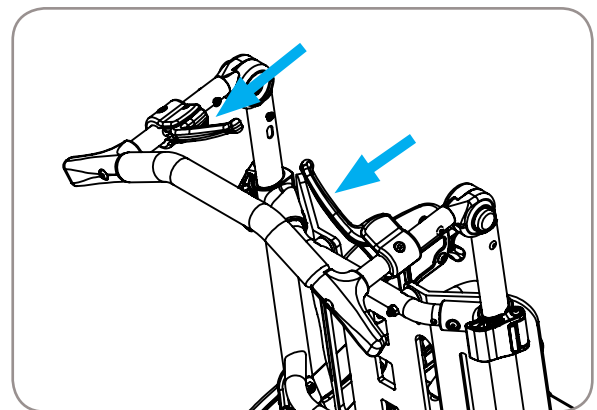

Figure 8
2. Pull back left and right hand levers, reference Figure 8.